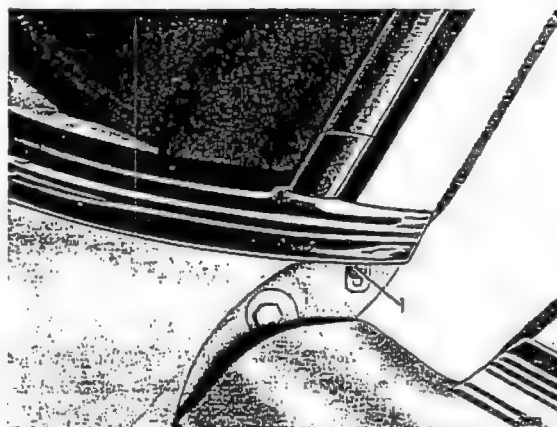

Fig. 67-2/1
1. Unscrew the screw (1) on the door box pillar (Fig. 67-2/1).